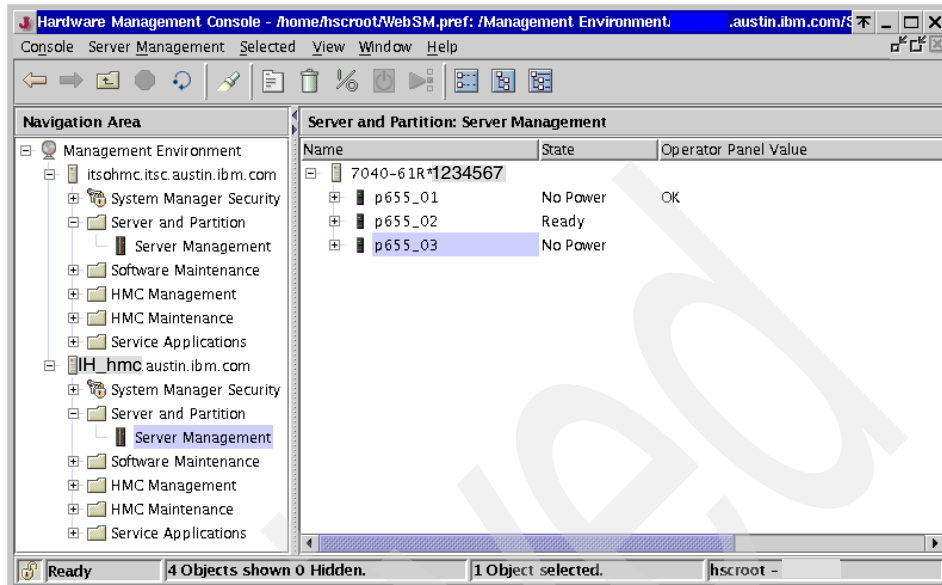

Figure 2-11 Server Management (three pSeries 655 servers)⁶
- ▶ Figure 2-11 on page 44 shows a frame (7040-61R*1234567) in the content area that contains three managed systems (three pSeries 655 servers).